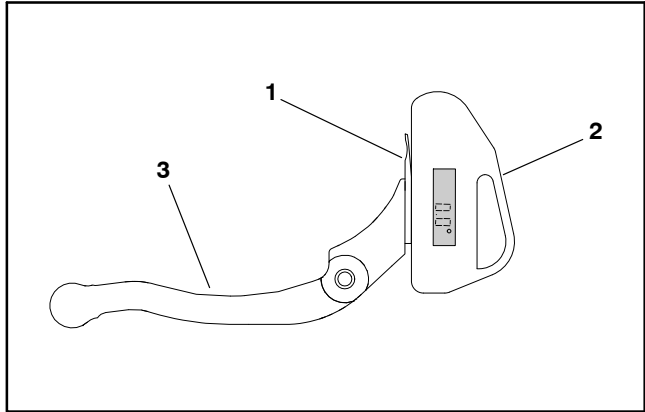

Figure 11
1. Place the angle indicator on the bottom side of the bedknife with the digital display facing you as shown (Fig. 11).